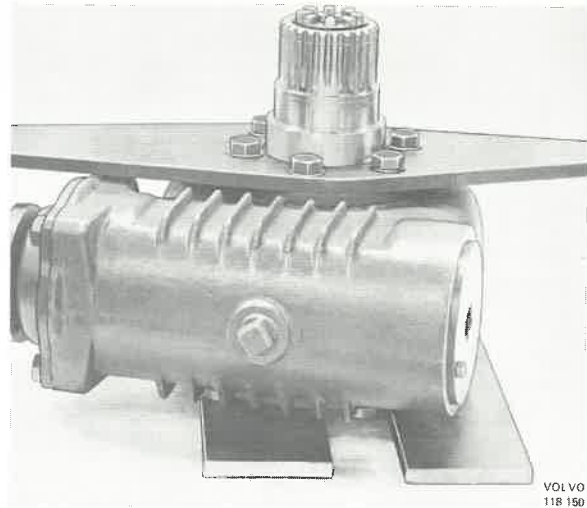

Fig. 92-87. Placing the gear housing
27. Place the gear housing with something underneath as shown in Fig. 92-87, so as not to damage the air valve.